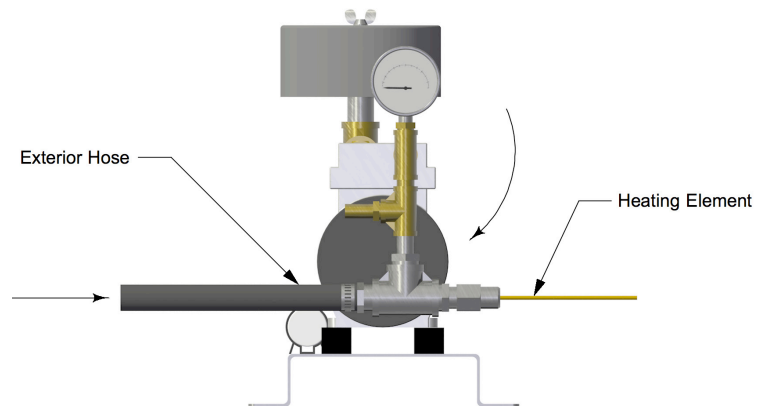

Figure 14: Step 3, 4 & 5 Twist back to original position
- Step 3:** After attaching the electrical connection assembly, rotate the discharge assembly back to original position. (See Figure 14)